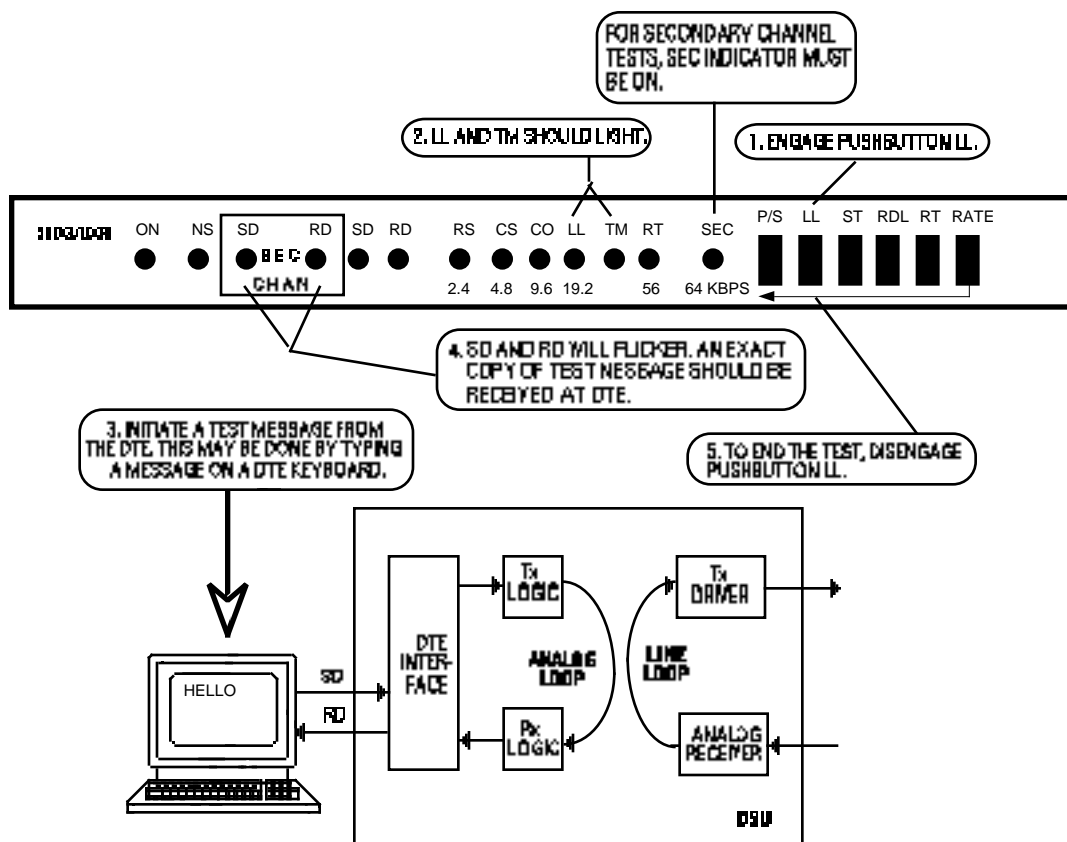

FIGURE 4-9. SECONDARY LINE LOOPBACK TEST, LOCALLY CONTROLLED
Line Loopback (LL) checks the performance of the DataComm 500G/UXR DSU secondary channel and its associated DTE. When the test is initiated, the DSU transmitter output and receiver input are disconnected from the communications line and connected together, creating a circuit similar to an analog loopback circuit that loops signals from the transmitter through the receiver. Also, the disconnected transmitter and receiver communications lines are connected together, creating a circuit (the Line Loopback circuit) that loops received signals back over the communications line to the originating station (Figure 4-9 illustrates LL). This test does affect the primary channel.